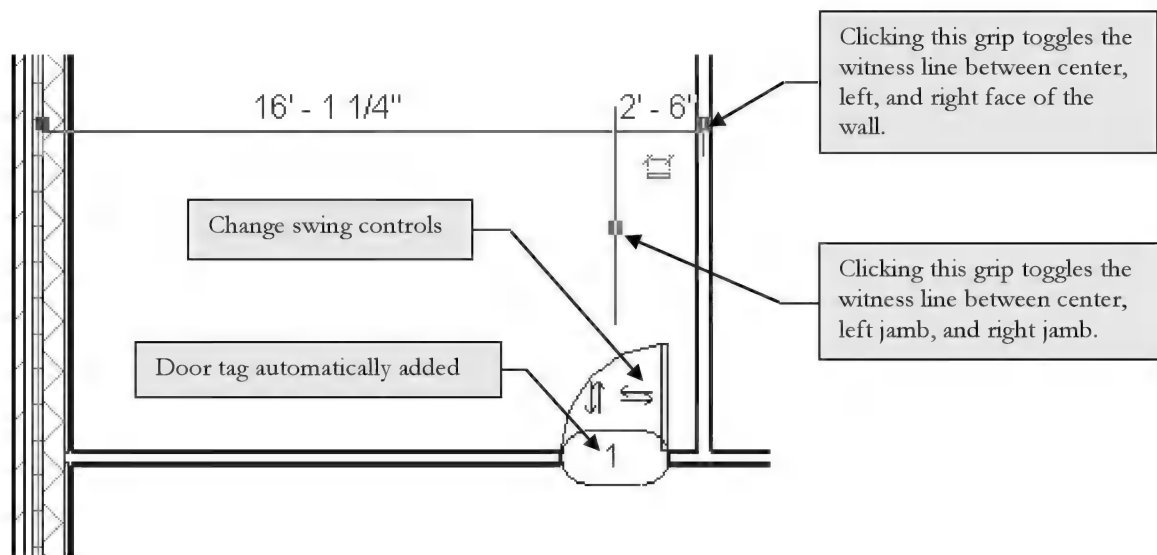

FIGURE 2-2.4 Door just placed
- While the door is still selected, click on the *change swing (control arrows)* symbol to make the door swing against the wall if it is not already (Figure 2-2.4).